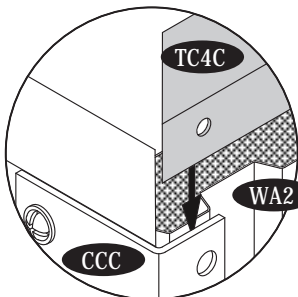

Fig.1
18. Insert the top 'U' channel (TC4C, TC3C) on top of the wall panel. Make sure the edges of the top 'U' channel must be inserted in between the wall panel and corner column. See fig.1&2.